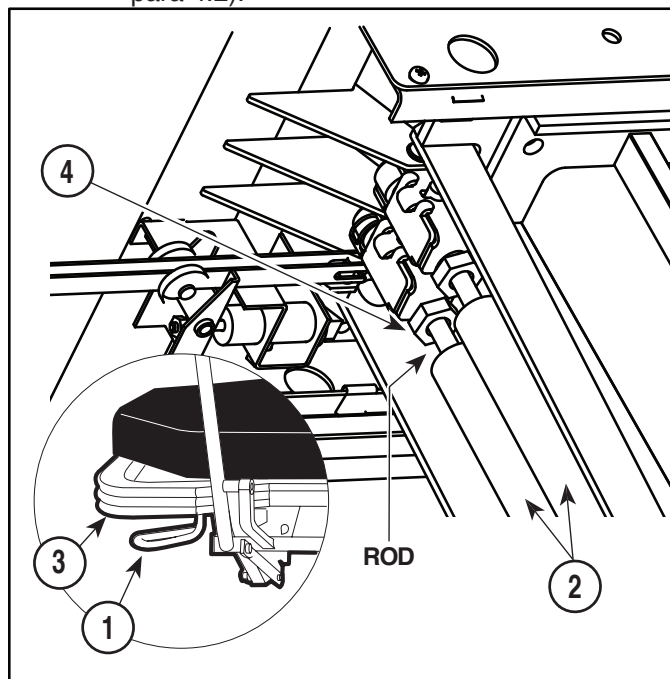

Figure 4-8. Trendelenburg Gas Spring Adjustment
- (1) Squeeze the Trendelenburg handle (1, Figure 4-8). The Trendelenburg gas spring (2) should release when the handle is squeezed - meaning the litter top (3) should be able to be raised and lowered. Release the Trendelenburg handle. Put pressure on one end of the litter top and then the other end. The litter top should not “drift” upward or downward.
- (2) Lower bellows for access (Refer to para 4.2).
- (3) Loosen jam nut (4).